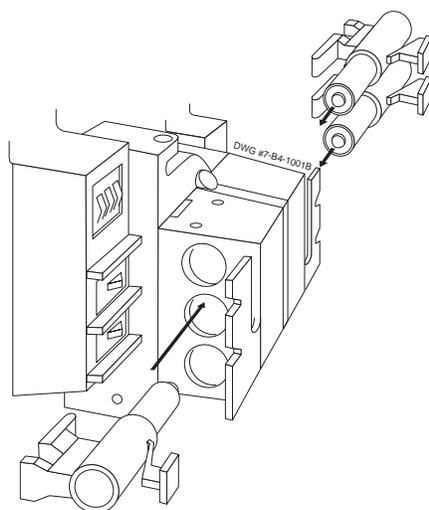

Figure 4.18 Replacing the Sensors
10. Replace sensors back into their appropriate place in the sensor module; each sensor clicks into position (Figure 4.18).